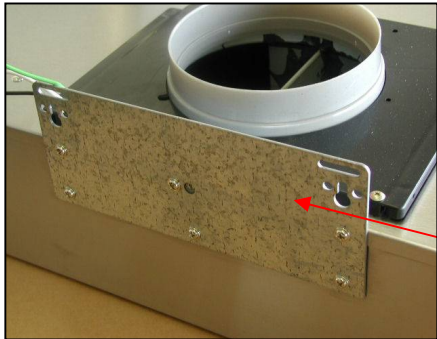

Figure 10
- Attach the hood-mounting bracket behind the hood with (3/16x3/8 mm) screws (provided) as shown in Figure 10.